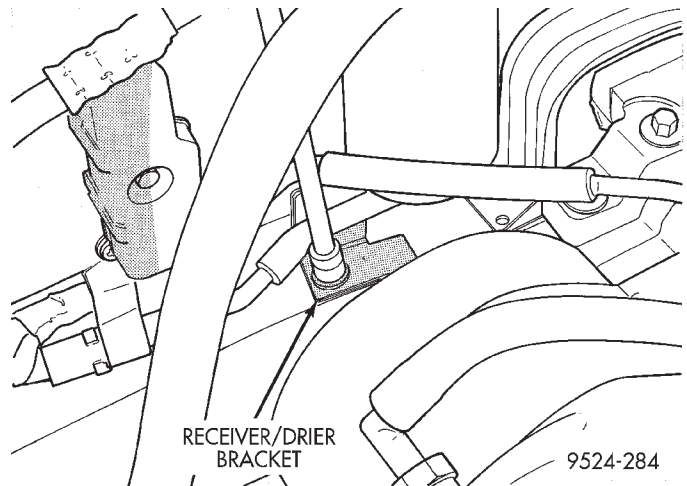

Fig. 54 Receiver/Drier Bracket
- (4) Remove filter/drier bracket bolt at base of filter/drier (Fig. 54).